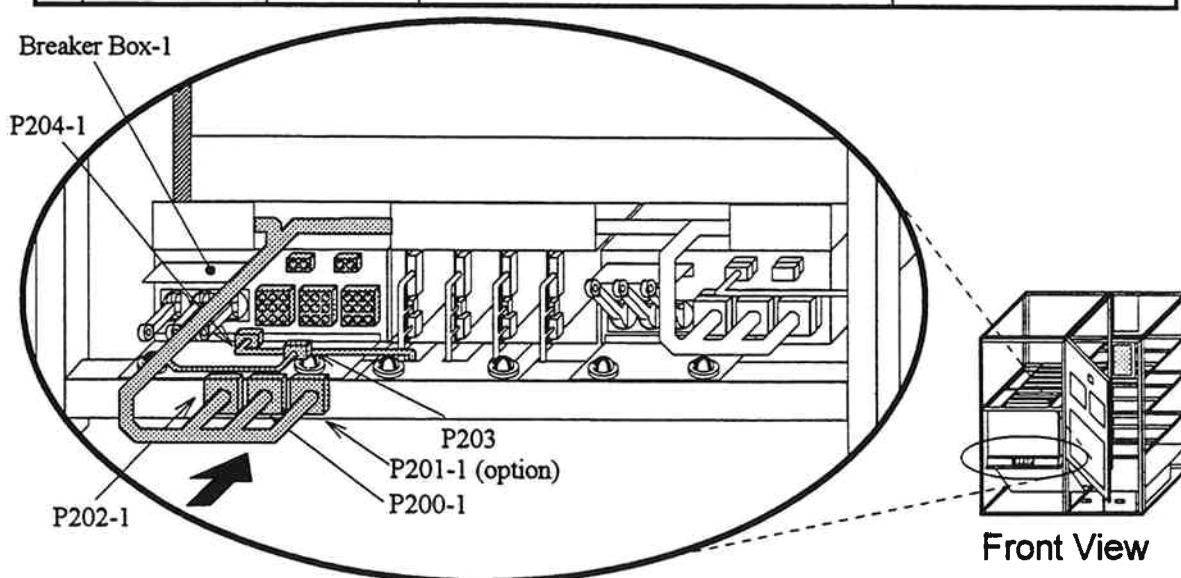

Fig. 7 Cable Connection of Breaker Box-1
c. Connect the connectors. Refer to Table 2 and Fig. 7.